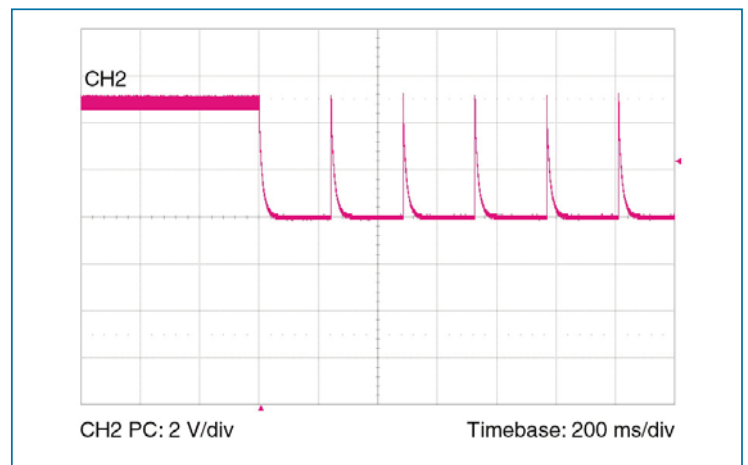

Figure 13 — PC signal during fault
**Alarm** – The BCM contains circuitry that monitors output overload, input overvoltage or undervoltage, and internal junction temperatures. In response to an abnormal condition in any of the monitored parameters, the PC port will toggle. Refer to Figure 13 for PC alarm characteristics.